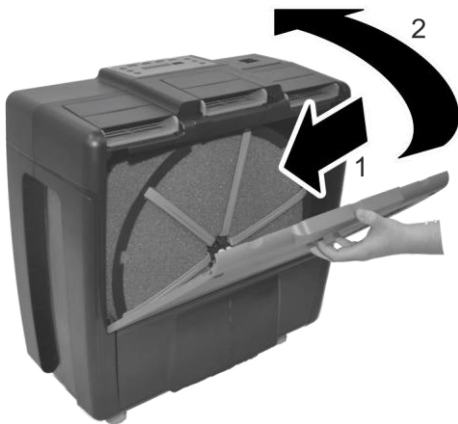

Fig. 19: Closing the outlet grille
4. ➔ Insert the outlet grille into the guides (Fig. 19/1) and press it onto the unit (Fig. 19/2).